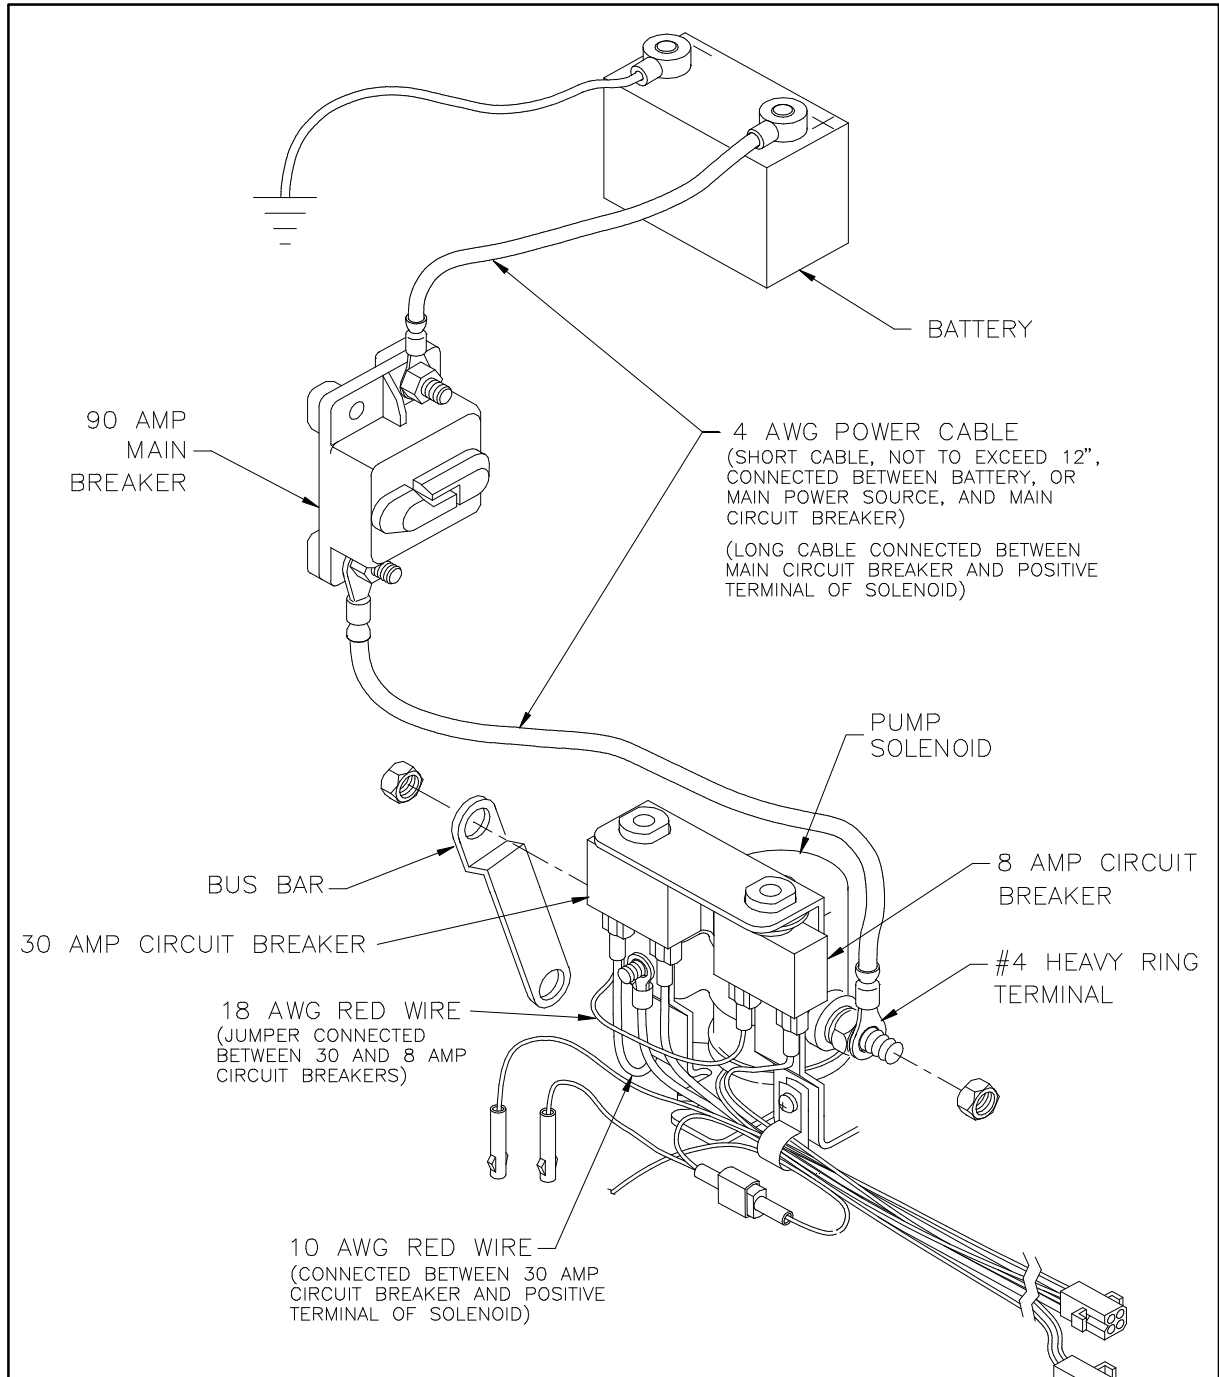

FIGURE 2-9: ELECTRICAL INSTALLATION DIAGRAM
- e. Refer to **Figure 2-9**. Verify that the 10 AWG red wire from the 30 amp circuit breaker is connected to the pump motor solenoid (this stud does not have a heavy 4 AWG wire connected to it). Cut excess wire from long cable, install remaining heavy ring terminal to unterminated end, and connect it to this side of the solenoid.